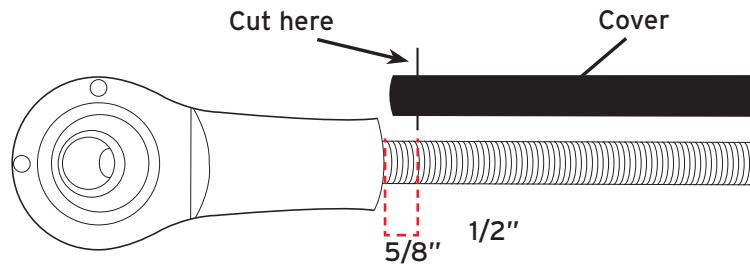

Fig. 16
8. Cut the rod cover 5/8" shorter than the rod length with the rod assembled on one end after cutting (Fig. 16).